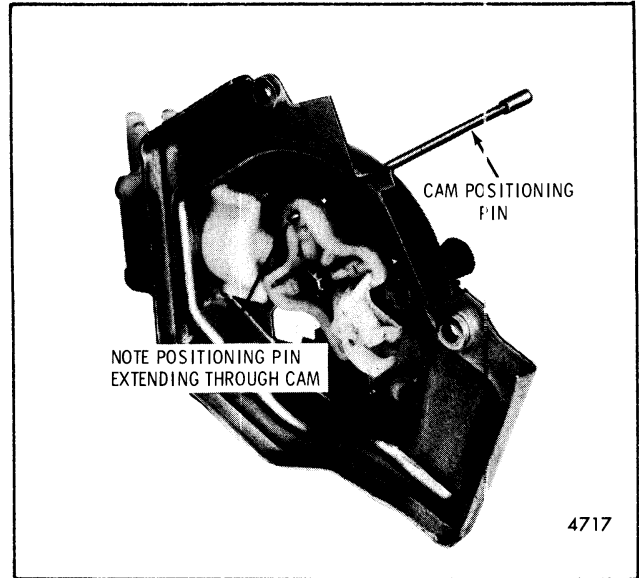

Fig. 2-72-Cam Alignment Pin Installation
2. Rotate the 4-lobe cam until index hole (.125" dia.) in the cam is aligned with the hole in the pump mounting plate. Insert a pin through both holes to maintain cam in position (Fig. 2-72).